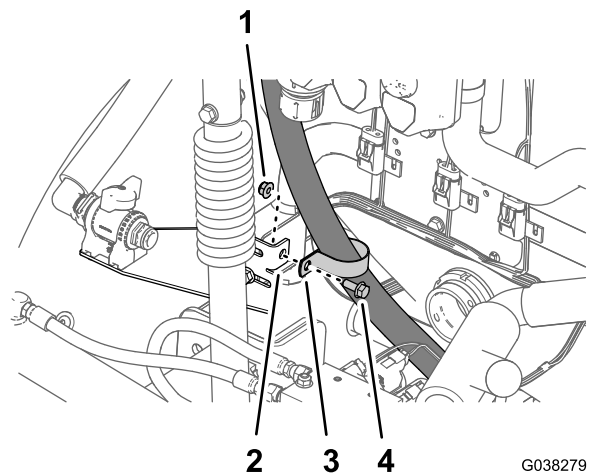

Figure 72
- Secure the hose to the sprayer supply hose to the tab of the agitation-valve bracket (Figure 72) with the flange-head bolt (5/16 x 3/4 inch) and flange locknut (5/16 inch).